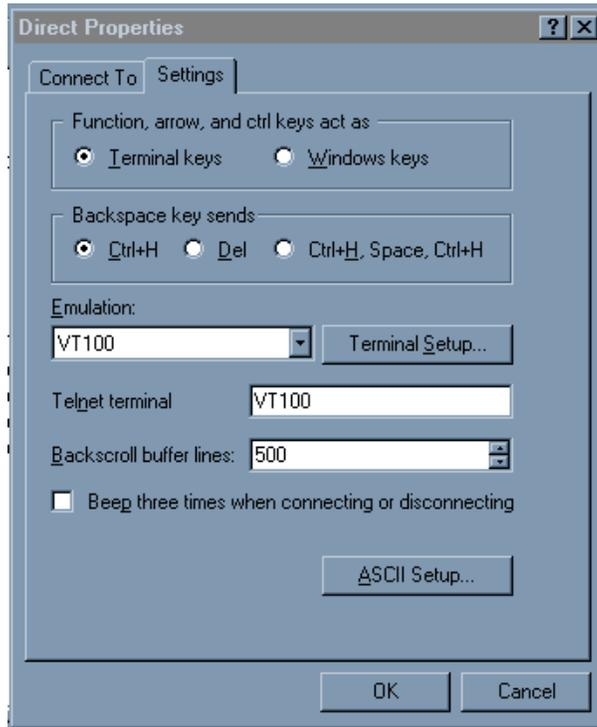

Figure 5-4. HyperTerminal Settings Tab
5. Select “File, Properties” from the menu bar and then select the “Settings” tab in the Properties dialog box. Match the settings to those in Figure 5-4.